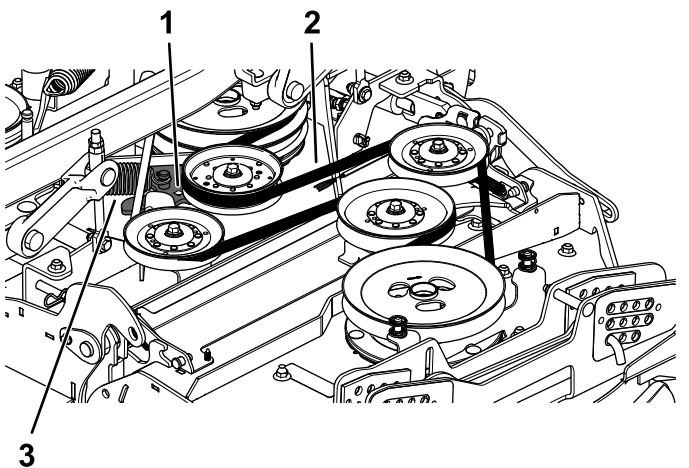

Figure 63
7. Using a ratchet in the square hole in the idler arm, rotate the idler arm rearward to remove tension on the idler spring (Figure 63).
8. Remove the belt from the mower deck pulleys (Figure 63).